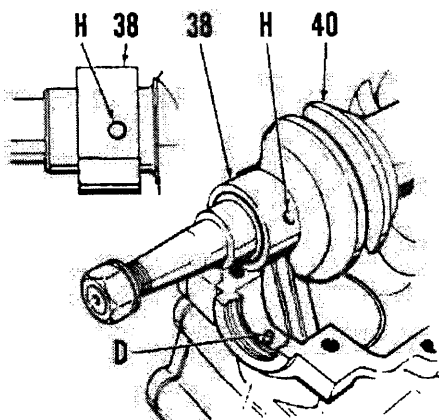

Fig. E3-19—Hole (H) in magneto end main bearing case (38) must be positioned over dowel (D) in crankcase.
Make sure that hole (H—Fig. E3-19) in top main bearing (38) is correctly positioned over dowel pin (D) in crankcase.
Fig. E3-21—Seal (37) at magneto end of crankcase (16) should be pressed in until it is flush or no more than 1/32 inch (0.8 mm) below surface. Refer to Fig. E3-19 for proper installation of bearing (38).
When installing magneto end main bearing (38) note that locating hole in bearing case is not centered. Bearing should be installed with side closest to locating hole toward crank throw (Fig. E3-19).